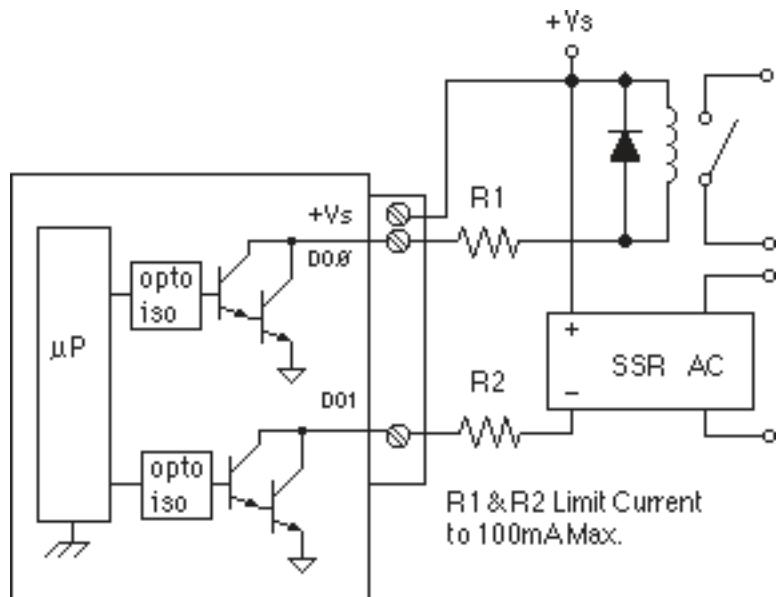
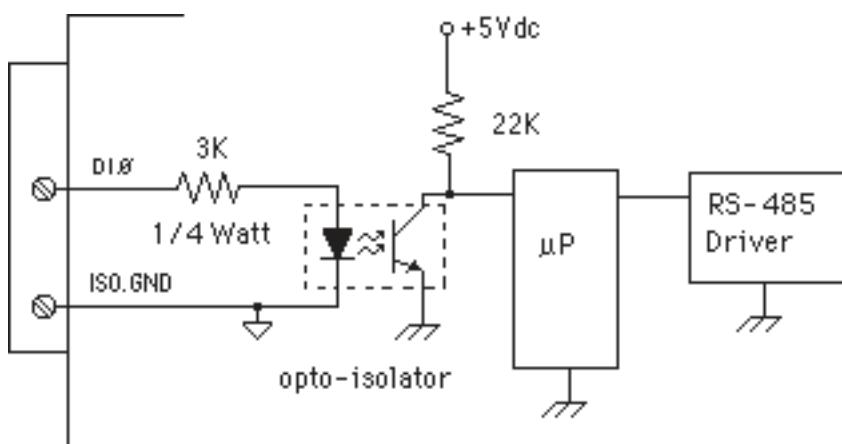

Figure 6.1 Digital Outputs Used With Relays
Figure 6.2 Typical Digital Input Circuit.
A digital output consists of an open-collector transistor controlled by the host, using the Digital Output (DO) command (See Figure 6.1). The open-collector configuration is used to provide maximum versatility in interfacing to solid state relays (SSR's) or to standard logic levels such as TTL or CMOS. Each digital output can sink up to 100mA and can withstand up to 30V. Power in the transistor must be limited to 300mW. The emitter of each transistor is tied to the GND terminal on the input connector.
A typical connection of a digital output is shown in Figure 6.1. In this case, a solid state relay is controlled by the DIN-172 module. The SSR can then be used to control AC power to alarms, heaters, pumps, etc. A typical connection to a logic input is shown in Figure 6.2. In some cases, the common-mode voltage of the GND terminal may be significantly different from the ground potential of the logic input to be interfaced. This may occur when
the module is powered remotely. In this case, an opto-isolator may be used to eliminate the common-mode voltage. See Figure 6.2. In all cases, the current switched by the transistor may not be more than 100mA.
Digital inputs are used to sense switch closures and the state of digital signals. The inputs are protected to voltages up to $\pm 30V$ and are normally pulled up to the logic "1" condition (see Figure 6.2). Digital inputs can be read by the Digital Input (DI) command. Voltage inputs less than 1V are read back as '0'. Signals greater than 3.5V are read as '1'. No other commands have any affect on the inputs.